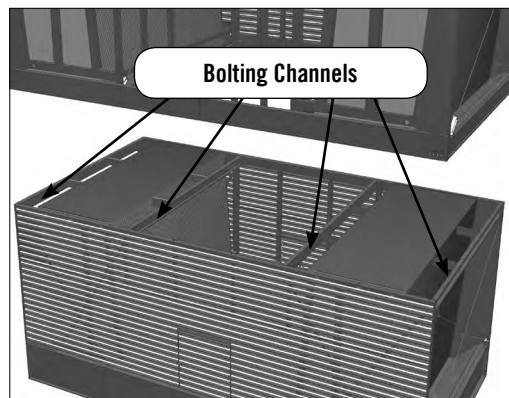

Figure 8. Bolting Channels
- Bolt the top sections onto the bottom sections as shown in **Figure 5** on **page 5** using the bolting channels in **Figure 8**.